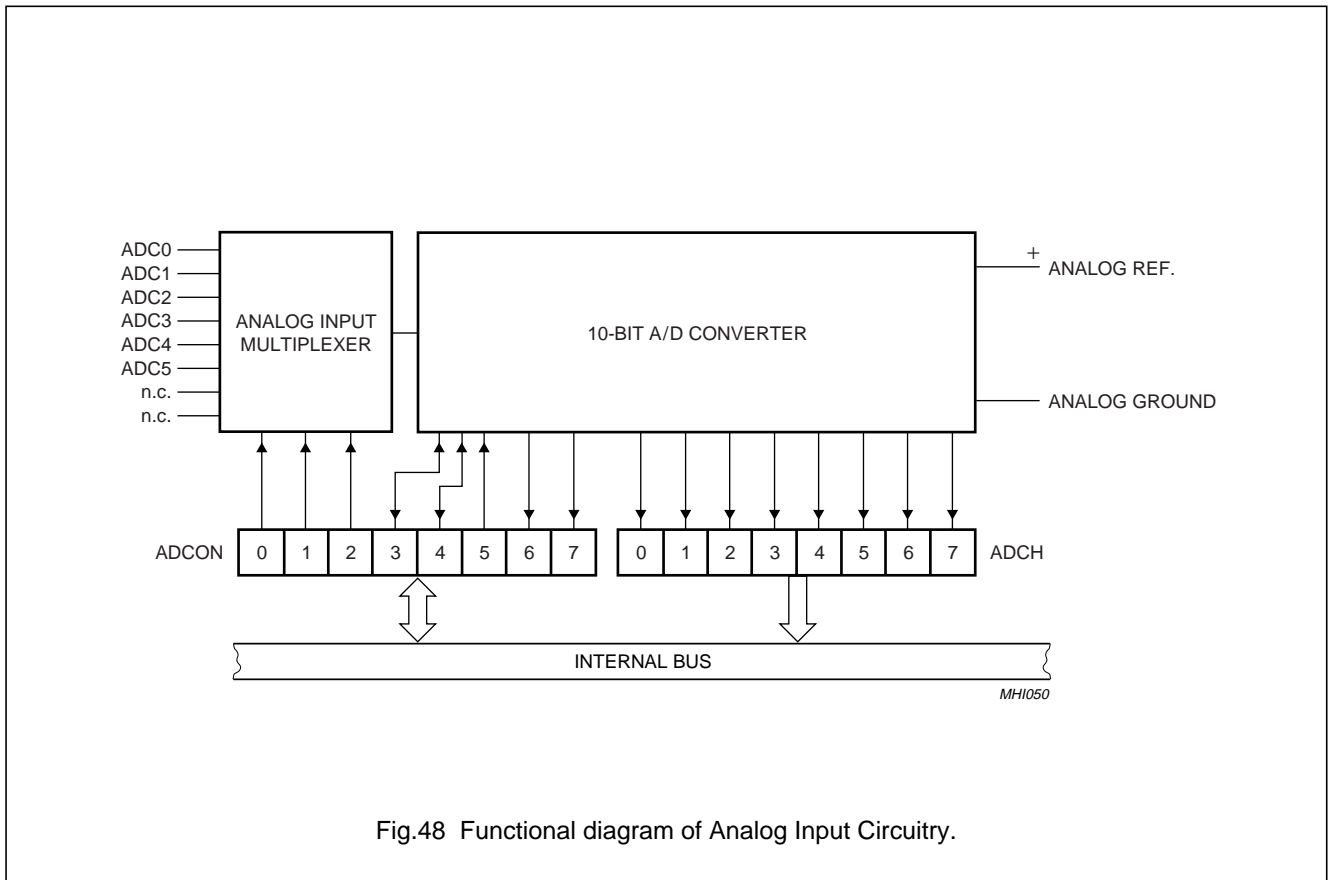

Fig.48 Functional diagram of Analog Input Circuitry.
The analog input circuitry consists of an 6-input analog multiplexer and a 10-bit, straight binary, successive approximation ADC. The A/D can also be operated in 8-bit mode with faster conversion times by setting bit ADC8 (AUXR1.7). The 8-bit result will be contained in the ADCH register. The analog reference voltage and analog power supplies are connected via separate input pins. For 10-bit accuracy, the conversion takes 50 machine cycles, i.e., 18.75  $\mu$ s at an oscillator frequency of 16 MHz. For the 8-bit mode, the conversion takes 24 machine cycles. Input voltage swing is from 0 V to +5 V. Because the internal DAC employs a ratiometric potentiometer, there are no discontinuities in the converter characteristic. Figure 48 shows a functional diagram of the analog input circuitry.
Figure 48 shows the elements of a successive approximation (SA) ADC. The ADC contains a DAC which converts a successive approximation register to a voltage (VDAC) which is compared to the analog input voltage ( $V_{IN}$ ). The output of the comparator is fed to the successive approximation control logic which controls the successive approximation register. A conversion is initiated by setting ADCS in ADCON register. ADCS can be set by software only.
otherwise the bit being tested is cleared. This process is repeated until all ten bits have been tested, at which stage the result of the conversion is held in the successive approximation register. Figure 48 shows a conversion flow chart. The bit pointer identifies the bit under test. The conversion takes four machine cycles per bit.
Figure 48 shows how the ADC is realized. The ADC has its own analog ground (AVSS) and a positive analog reference pin (Vref+) connected to each end of the DAC's resistance-ladder. The ladder has 1023 equally spaced taps, separated by a resistance of "R". The first tap is located 0.5 x R above AVSS, and the last tap is located 1.5 x R below Vref+. This gives a total ladder resistance of 1024 x R. This structure ensures that the DAC is monotonic and results in a symmetrical quantization error is shown in Figure 48.